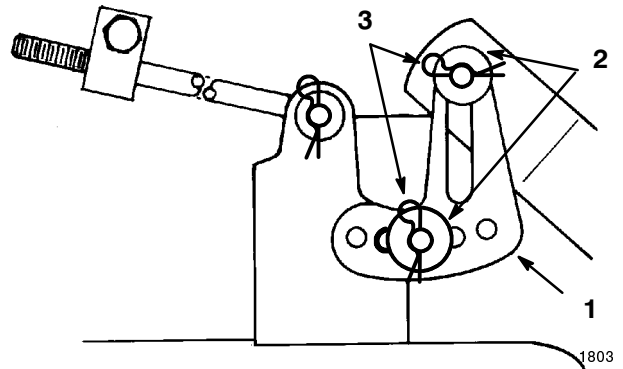

Figure 16
- 2. Replace the two left side mower leveling brackets (slotted) with two new leveling brackets (holes) (Fig. 16). Secure with existing washers and hair pin cotters (Fig. 16).